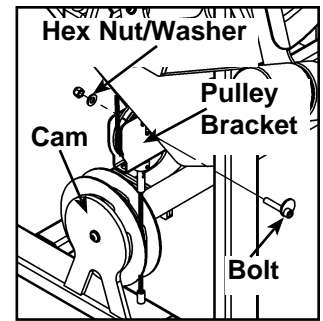

Figure 2
- E. Locate the cable that is connected to the cam. See Figure 2.